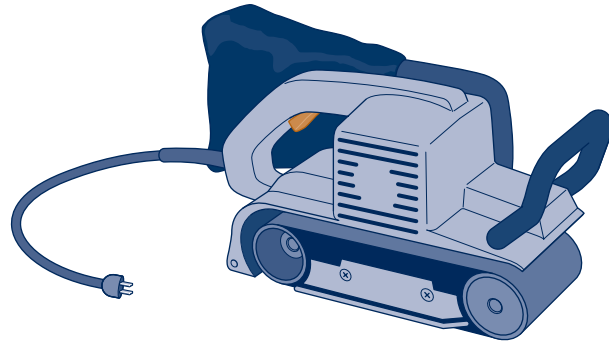

Fig. P2.35
2.35 The belt sander shown in Fig. P2.35 has a belt speed of 1500 ft/min. The coefficient of friction between the sander and a plywood surface being finished is 0.2. If the downward (normal) force on the sander is 15 lbf, determine (a) the